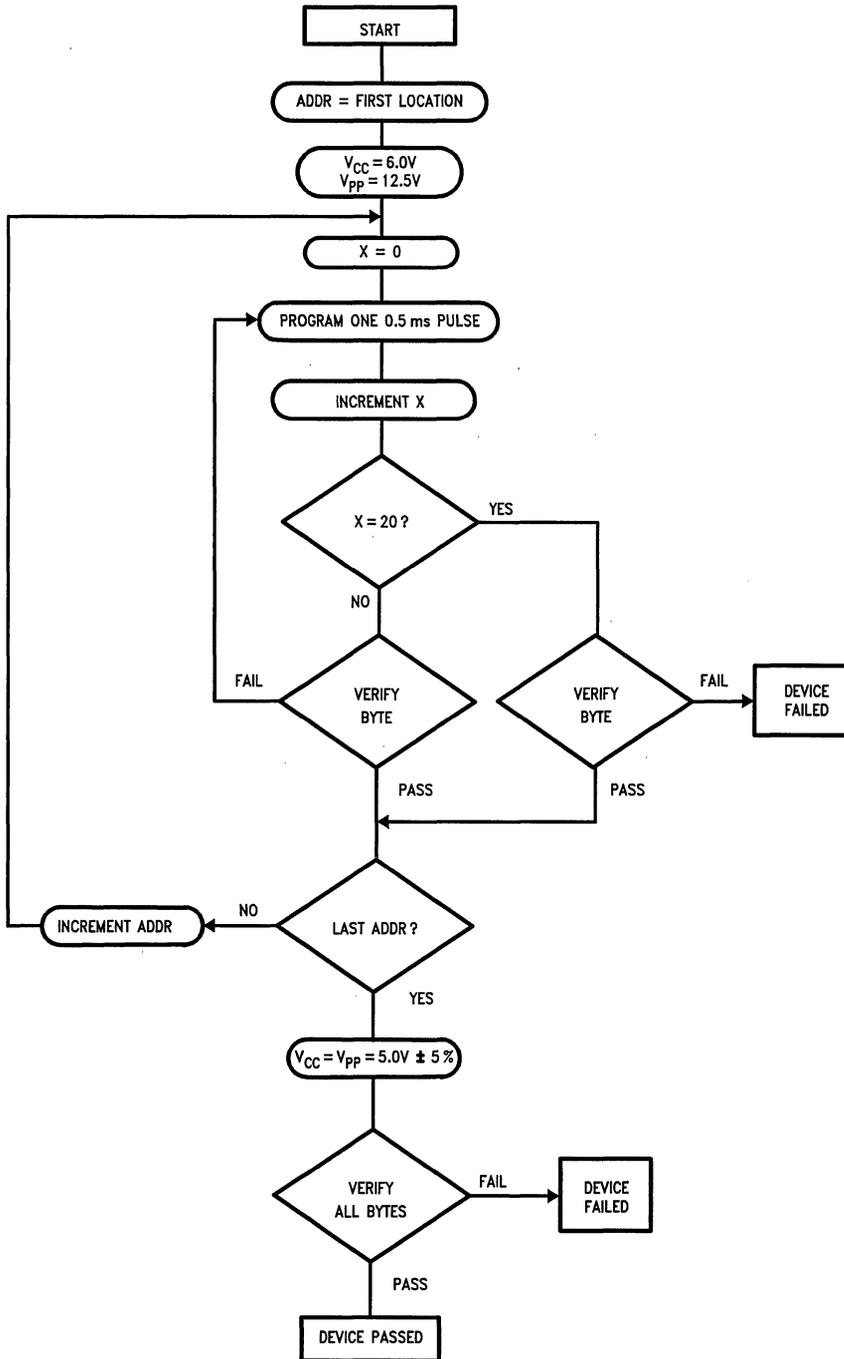

FIGURE 2
**Note:** Some programmer manufacturers due to equipment limitation may offer interactive program Algorithm (Shown in *Figure 2*).